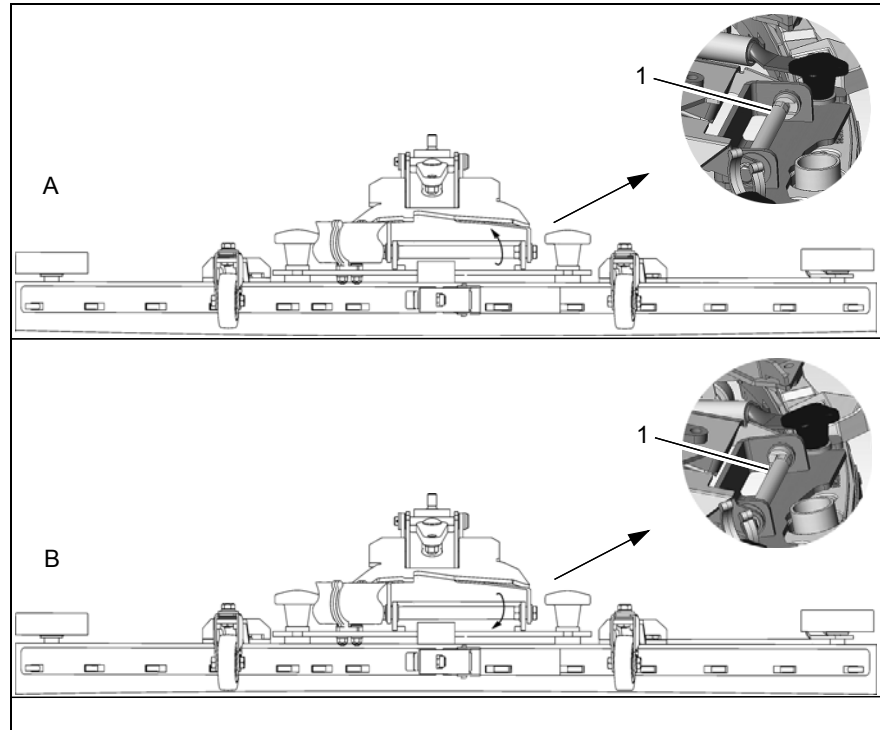

Fig.2
2. Loosen the screws on the eccentric wheel (Fig. 2/1) and adjust the squeegee using the eccentric wheel (SW13) so that the ends of the sealing strips still have contact with the floor.